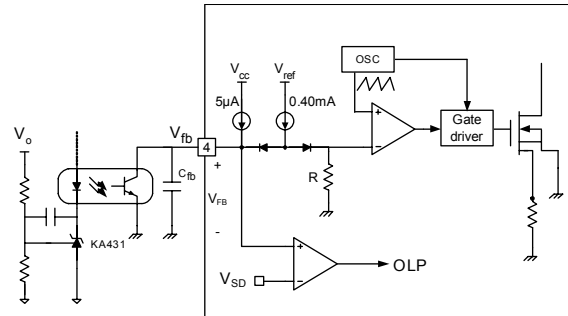

Figure 16. PWM and Feedback Circuit
2. Feedback Control: The FSQ211 is a voltage-mode controlled device, as shown in Figure 16. Usually, an opto-coupler and shunt regulator, like KA431, are used to implement the feedback network. The feedback voltage is compared with an internally generated sawtooth waveform. This directly controls the duty cycle. When the shunt regulator reference pin voltage exceeds the internal reference voltage of 2.5V, the opto-coupler LED current increases, the feedback voltage V_{FB} is pulled down, and it reduces the duty cycle. This happens when the input voltage increases or the output load decreases.